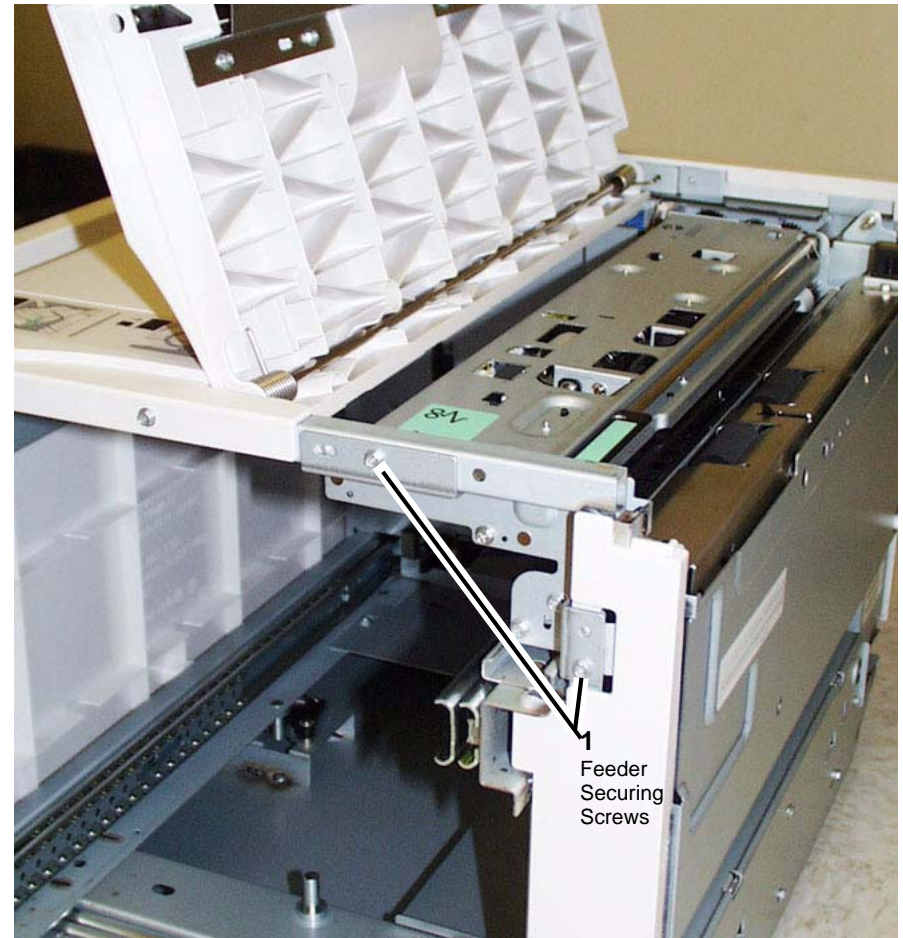

Figure 1 Feeder Securing Screws
5. Remove the (2) screws used to secure the HCF Feeder on its rail (Figure 1).